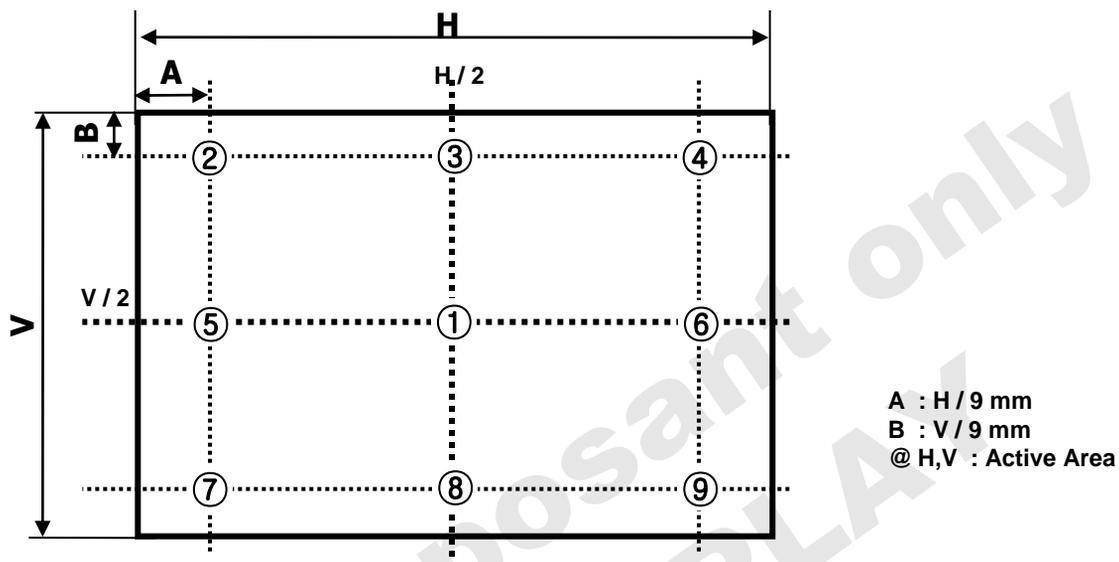

FIG. 3 9 Points for Luminance Measure
2. Surface luminance are determined after the unit has been 'ON' and 1 Hour after lighting the backlight in a dark environment at  $25 \pm 2^{\circ}\text{C}$ . Surface luminance is the luminance value at center 1-point across the LCD surface 50cm from the surface with all pixels displaying white. For more information see the FIG. 3.
For more information, see the FIG. 3.